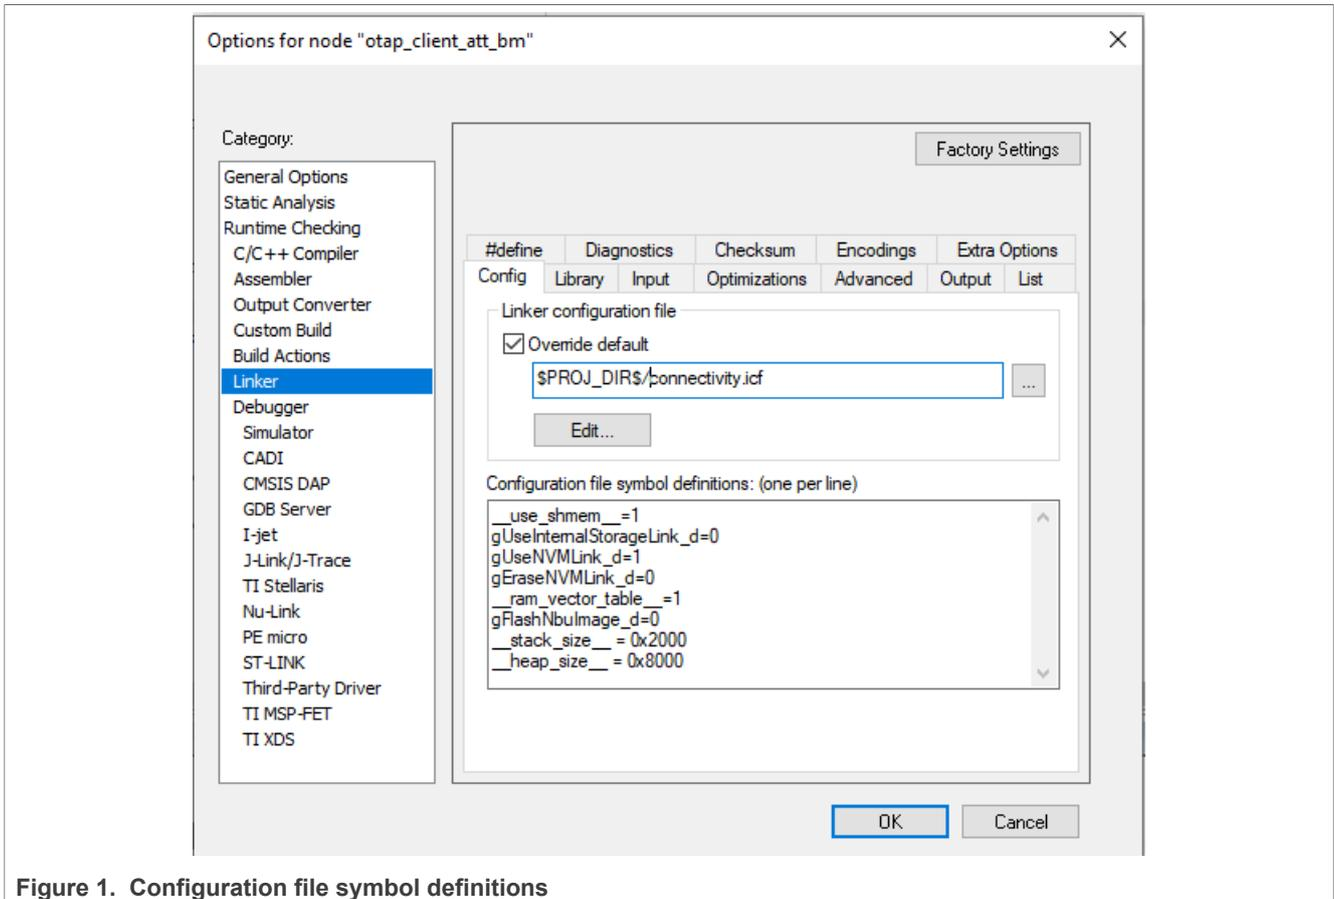

Figure 1. Configuration file symbol definitions
- b. The OTAP demo applications for IAR EW IDE have some settings in the linker options, as shown in Figure 1.